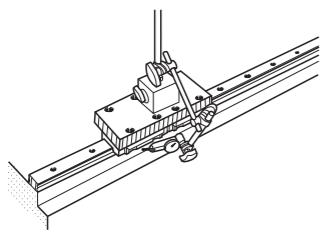

Fig. 33 Mounting by using a temporary reference surface
① Use of mating reference mounting surface of bed
② Use of a temporary reference surface
- Prepare a temporary reference surface near the mounting surface of the bed and temporarily fix the track rail. Next, fix an indicator stand on the top face of the slide unit as shown in Fig. 33. Apply the indicator probe to the temporary reference surface and fix the track rail by tightening the mounting bolts in succession from one end of the track rail to the other while checking the straightness of the slide unit movement.